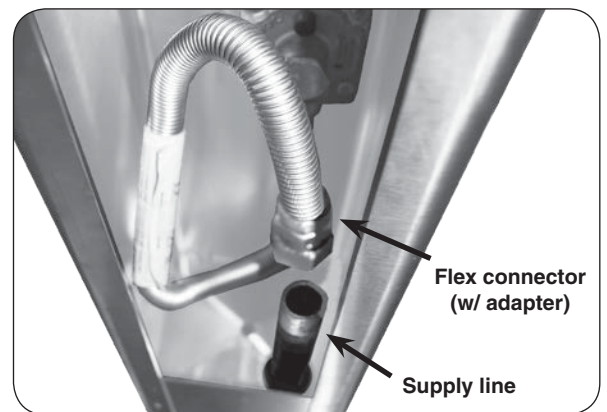

Fig. 18-2 Post interior detail
2. Verify that the gas supply line fits through the gas line clearance hole in the bottom of the post (see Fig. 18-2). The clearance hole is the larger of the two holes in the bottom of the post and is off center.